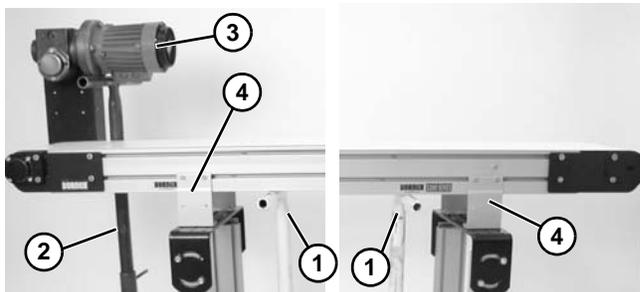

Figure 59
- Place temporary support stands (**Figure 59, item 1**) at both ends of the conveyor. Place an additional support stand (**Figure 59, item 2**) under the drive motor (**Figure 59, item 3**), if equipped. See WARNING.
- Remove mounting brackets (**Figure 59, item 4**) from one side of conveyor. (Reverse steps 2 & 3 of “Mounting Brackets” section on page 21).